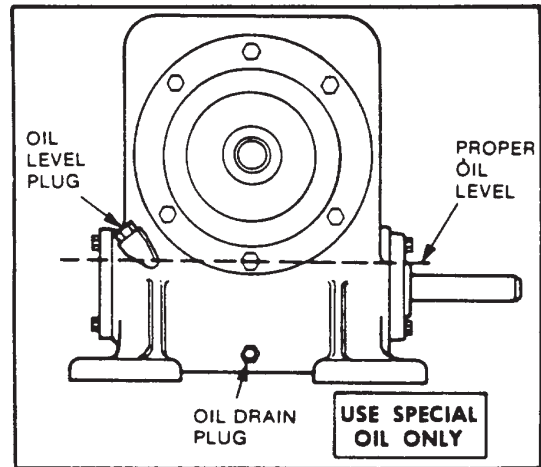

Figure 11-1 Gear Reducer
4. OVERFILLING OR UNDERFILLING – If a gear reducer is overfilled with oil, the energy used in churning the excessive oil can result in overheating. If the gear reducer is underfilled, the resultant friction can cause overheating. If underfilling occurs, fill the gear reducer to the oil level plug hole. See Figure 11-1.